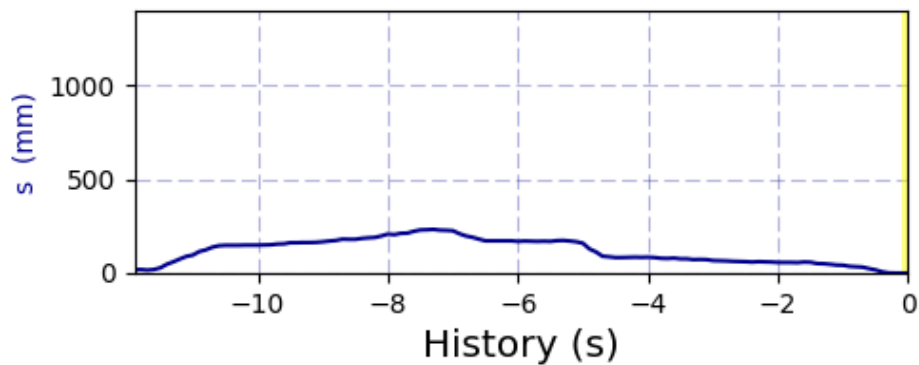

Figure 7. Relative position vs. time graph of the Cart moving with respect to the Sensor in the same direction.
- The relative position of the Cart with respect to the moving Sensor in the same direction is shown in the Figure 7. Which object is moving faster?